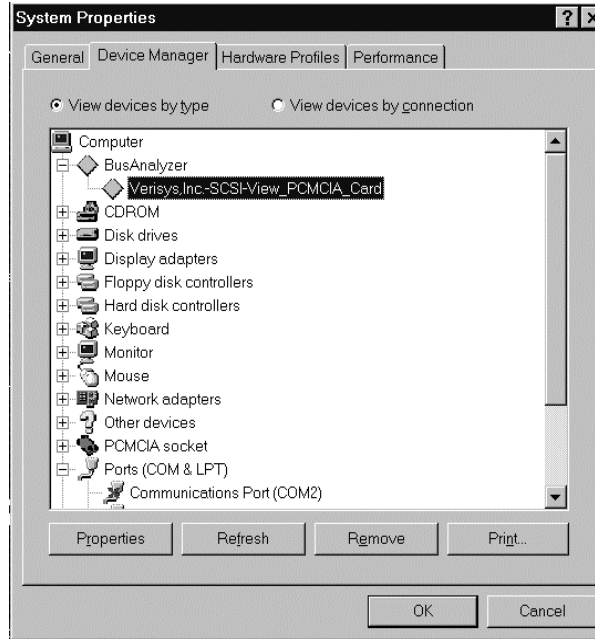

Figure 18
- Double Click on Verisys, Inc.-SCSI-View\_PCMCIA\_Card.(Figure 18)